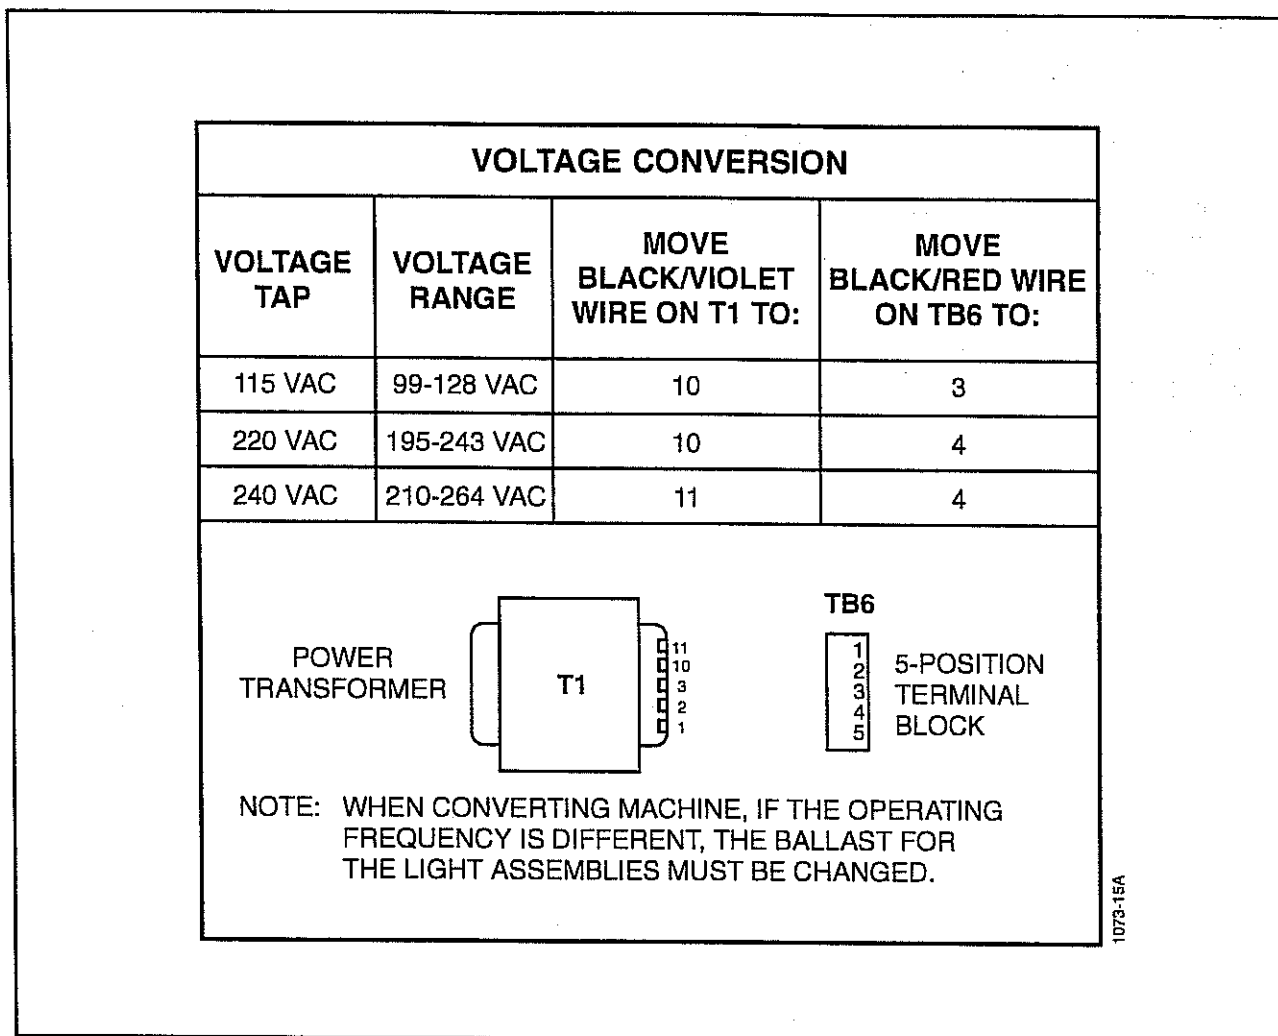

Figure 5-30. Voltage Conversion.
5. Identify the current voltage configuration using the voltage conversion label affixed to the power supply cover, to the left of the main fuses. Figure 5-30 also shows the voltage-conversion label information.
ing frequencies. See Figure 5-30, Voltage Conversion.